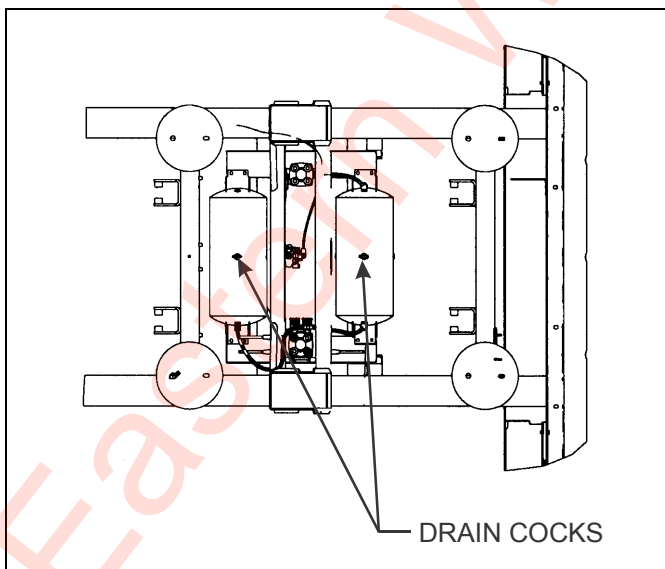

Figure 4-11: Drain Cock Locations
4. Drain air reservoir daily. A drain cock on the bottom of each air reservoir vents the tank to drain collected water and oil. If held open, air pressure in the tanks is relieved, causing the emergency or parking brakes to be applied (**See Figure 4-11.**)